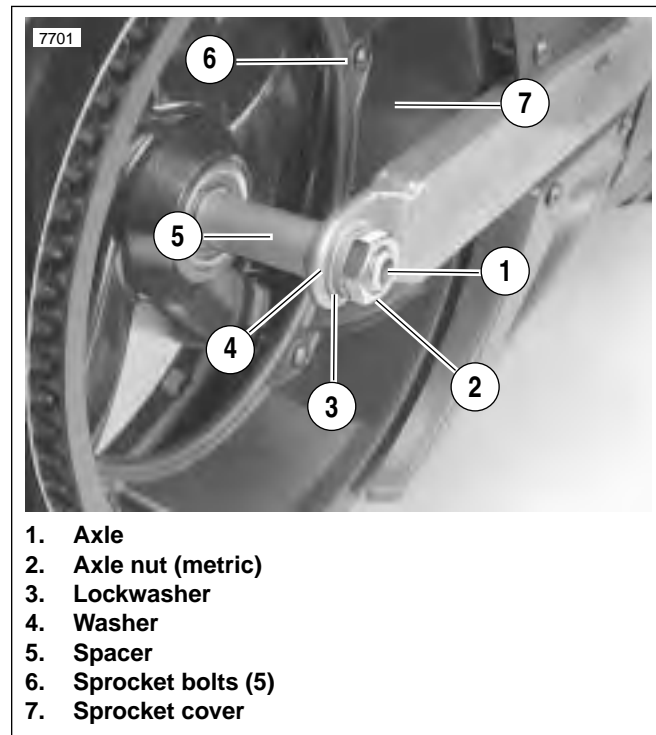

Figure 2-9. Rear Axle, Right Side
1. See Figure 2-9. Remove and discard five sprocket bolts (6) from sprocket cover.
2. Remove sprocket cover (7) from sprocket.